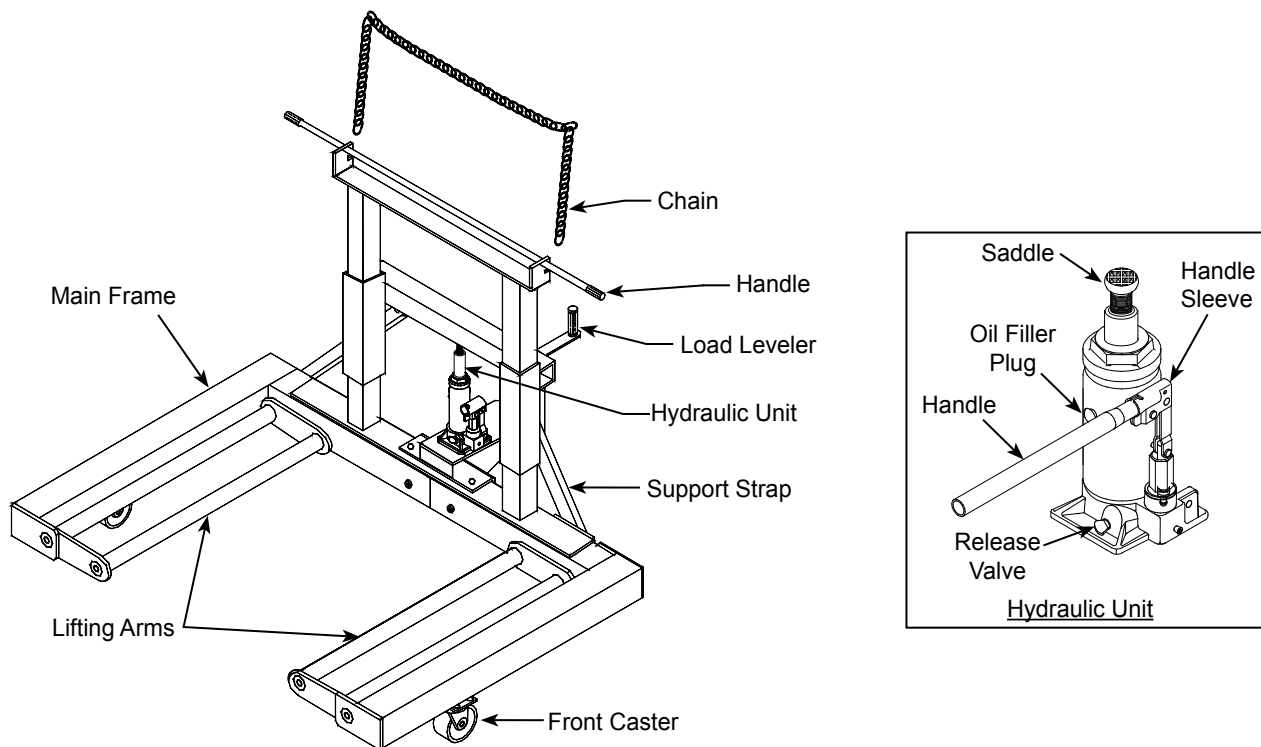

Figure 1 - Wheel Dolly Components
Assembly (refer to Fig. 1 & 2)
1. Verify that the product and the application are compatible, if in doubt call Omega tech. service (888) 332-6419.
3. To familiarize yourself with basic operation; position the hydraulic unit upright as shown in Fig. 1, engage the release valve with the slotted portion of the provided handle, then turn the release valve:
5. Place the hydraulic unit to the wheel dolly as shown in Fig. 1. Position the hydraulic unit such that the saddle mates with the provided indentation.